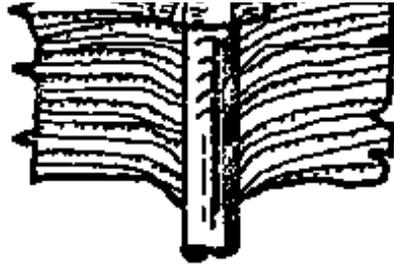

Fig. 2
**The holding power of the nail depends on the pressure of the wood fibres against the shank of the nail and also on the size of the nailhead (Fig. 2).**